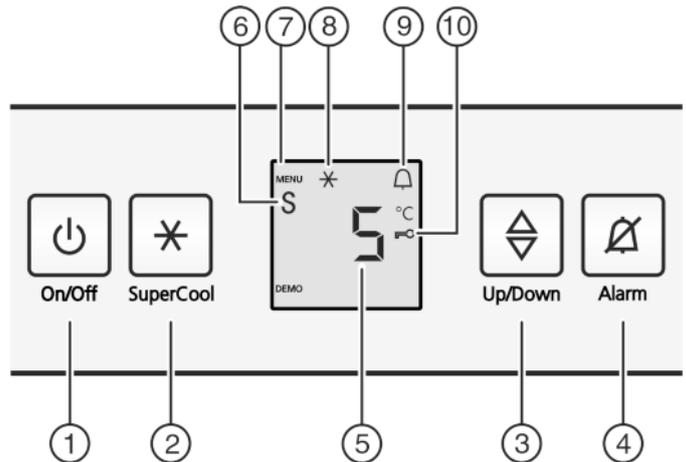

Fig. 2
- ▶ Press the On/Off button Fig. 2 (1).
- ▶ Activate setting mode: Press the SuperCool button *Fig. 2 (2)* for around 5 seconds.
- ▷ The menu symbol *Fig. 2 (7)* shines.
- ▶ Use the Settings button *Fig. 2 (3)* to select **c**.
- ▶ Briefly press the SuperCool button *Fig. 2 (2)* to confirm.
- ▶ to activate the child lock, briefly press the SuperCool button *Fig. 2 (2)*.
- ▷ The child lock symbol *Fig. 2 (10)* shines. **c** flashes in the display.
- ▶ to deactivate the child lock, briefly press the SuperCool button *Fig. 2 (2)*.
- ▷ The child lock symbol *Fig. 2 (10)* goes out. **c** flashes in the display.
- ▶ To deactivate the set-up mode: press On/Off button *Fig. 2 (1)*.
- ▶ Press alarm button *Fig. 2 (4)*.
- ▷ The Menu symbol *Fig. 2 (7)* lights up.
- ▶ To call up the Sabbath Mode function: Briefly press the SuperCool button *Fig. 2 (2)*.
- ▶ **To switch on** Sabbath Mode, briefly press the SuperCool button *Fig. 2 (2)*.
- ▶ **To switch off** Sabbath Mode, briefly press the SuperCool button *Fig. 2 (2)*.
- ▶ Deactivate setting mode: Press the On/Off button *Fig. 2 (1)*.
- ▷ The temperature display shows the Sabbath Mode symbol *Fig. 2 (6)* as long as Sabbath Mode is on.
▶ Call up temperature function: press the setting button *Fig. 2 (3)*.
▶ Change the temperature in 1 °C steps: Press the setting button *Fig. 2 (3)* until the required temperature is indicated in the temperature display.